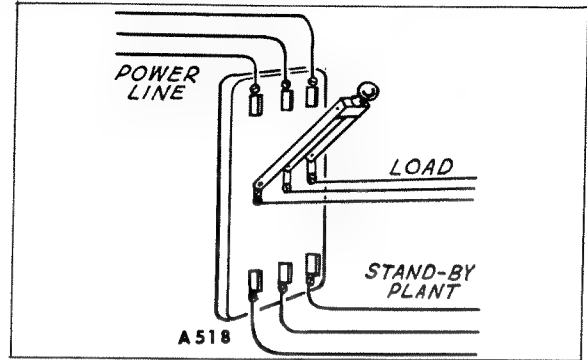

Fig. 11 Double Throw Transfer Switch
**Standby** - If the installation is for standby service, always install a double-throw transfer switch (either manual or automatic type) so that the generator output cannot be fed into the normal power source lines, and so that both the normal source and the generator output cannot be connected at the same time to the load. Instructions for connecting an automatic line transfer switch are included with such equipment. See figure 11.